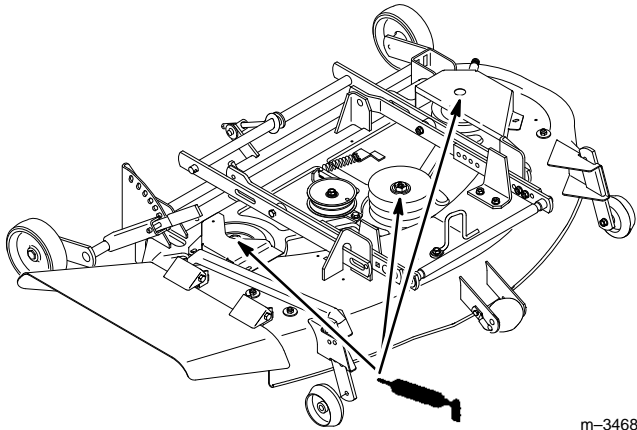

Figure 36
1. Lubricate the blade spindles (Fig. 36).